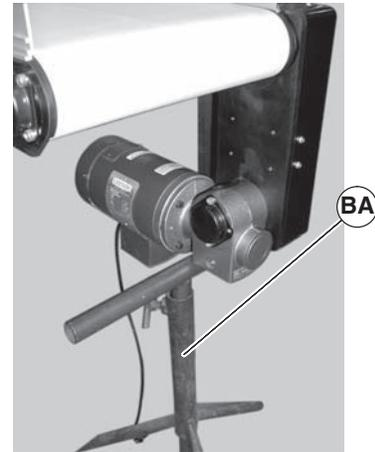

Figure 40
- Use a temporary support (Figure 40, item BA) to support Gearmotor.